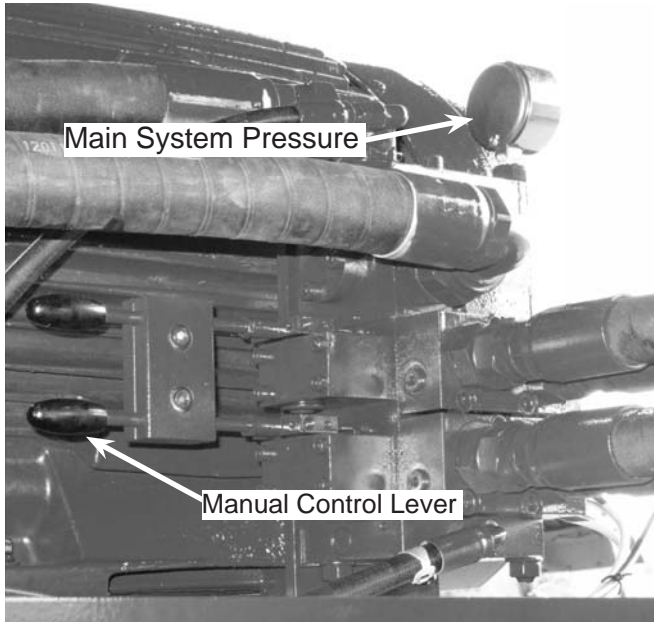

Figure 17. Directional Valve
Directional Control Valve is for controlling the direction of the plunger (see "Manual Operation - Place the control box:" on page 10). The Main System Pressure gauge is located on the Directional Control Valve (see Figure 17). The Manual control Lever can also be used to relieve pressure in the plunger cylinder when the HPU is shut down.
- **STOP** main system pressure will go to minimum (150 to 500 psi). Restriction pressure will not exceed main system pressure. Plunger stops and can be controlled manually using the directional valve (see Figure 17 on page 7).
3. Operate lever on directional valve to operate plunger (see Figure 17 on page 7).